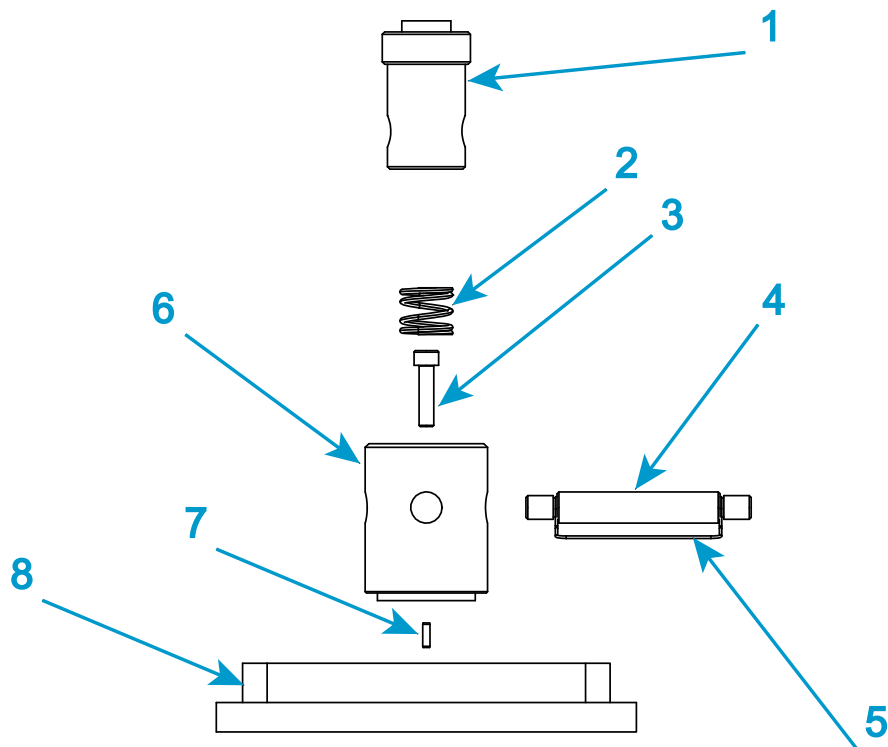

Figure 19. Type D base adapter
Legend for Figure 19
1. Only one anti-rotation pin is visible in Figure 19 because the second pin is lined up directly behind it.